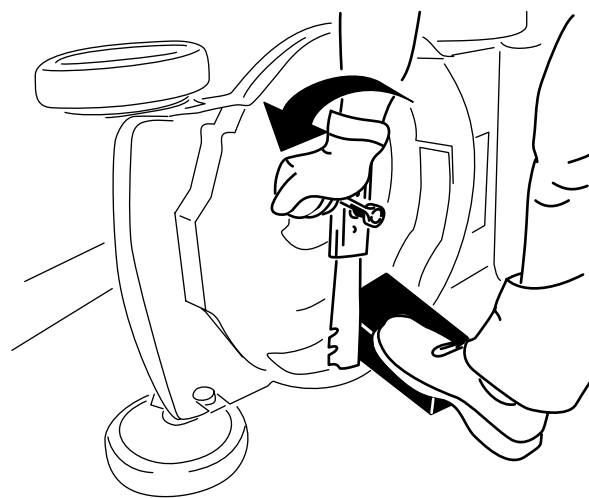

Figure 23
3. Use a block of wood to hold the blade steady (Figure 23).